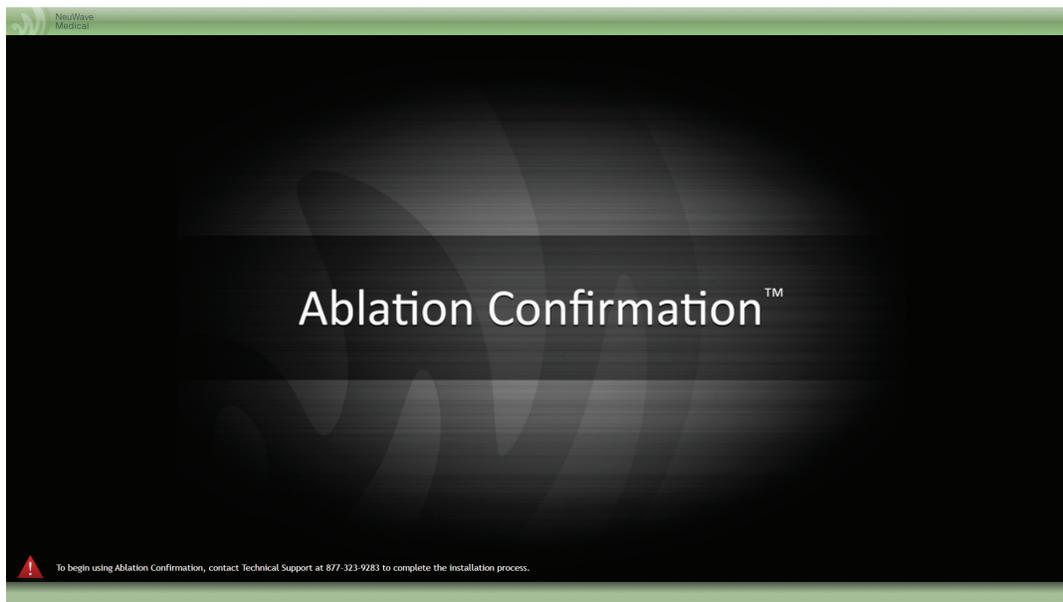
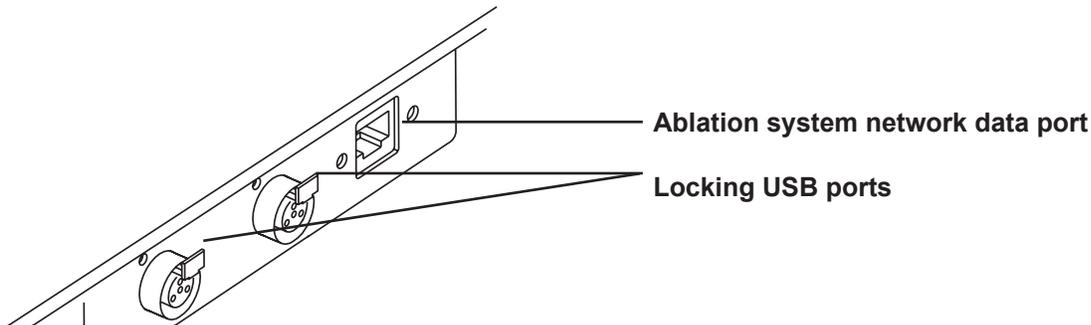

Figure 3-2: Welcome screen if system starts without a valid license
Figure 3-3: Ablation system network connection
2. The patient must be properly positioned on the CT scanner bed and the system cart must be positioned where the system's power and network connections can be made. If there is no Ethernet connection or you have other network connectivity problems, or if the system does not have a valid license (as indicated in Figure 3-2), contact Ethicon Customer Service and see *Handling Network Connectivity Problems* at the end of Chapter 5. You might be able to fix the Ethernet connection yourself; check the lower-left side of the cart and make sure that a CAT5 Ethernet cable is attached between the ablation system network data port and the hospital network data port (see Figure 3-3).